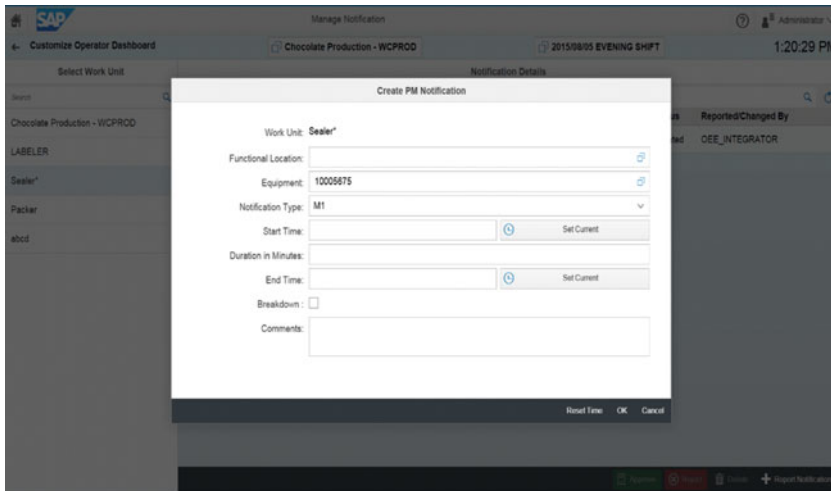

Figure 8-5. PM notification request creation
2. Refer to Figure 8-5, where a new dialog is opened in which you can enter the details, such as functional location, equipment, notification type, breakdown/maintenance start time, and end time (if planned). Check the “Breakdown” checkbox if the notification is of the breakdown type, and finally enter the comments and click the OK button. Now the notification request is created.